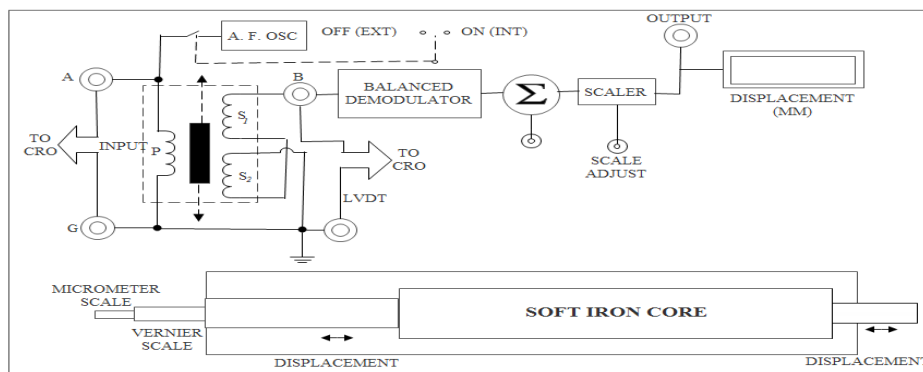

Fig. 7.2: Circuit Diagram of LVDT
1. Connect LVDT kit into mains and switch ON the supply as shown in Fig. 7.2.